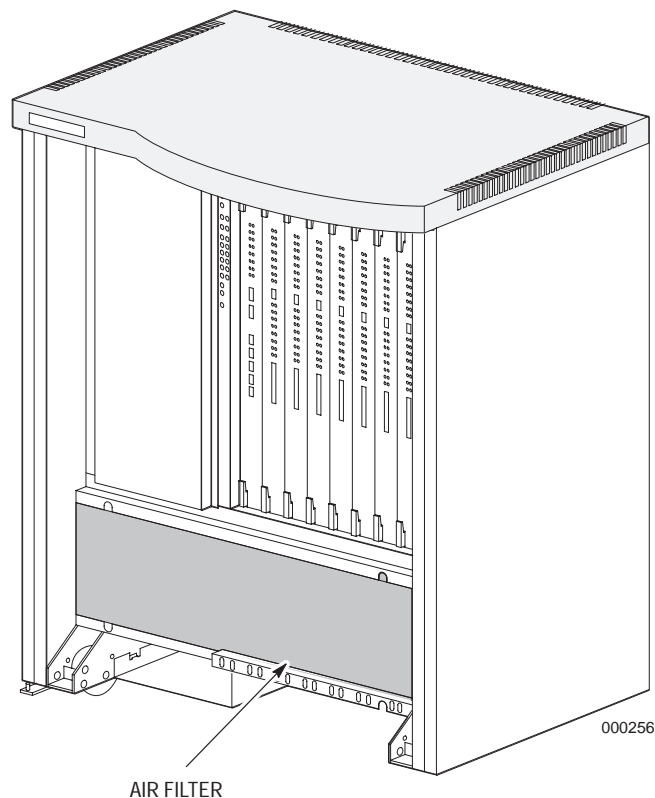

Figure 10-15. Octel 250 Air Filter.
3. Open the front cabinet door. The air filter is located below the card cage and drive bay. Refer to Figure 10-15 for the location of the air filter.